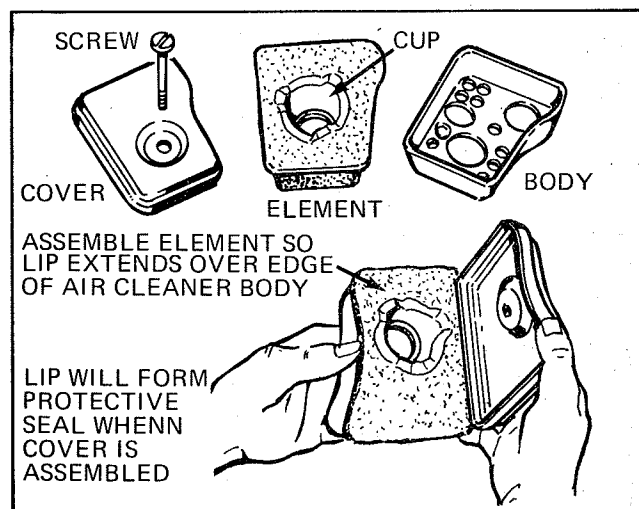

Figure 16. Air cleaner disassembled.
3. Take the air cleaner apart as shown in figure 16.